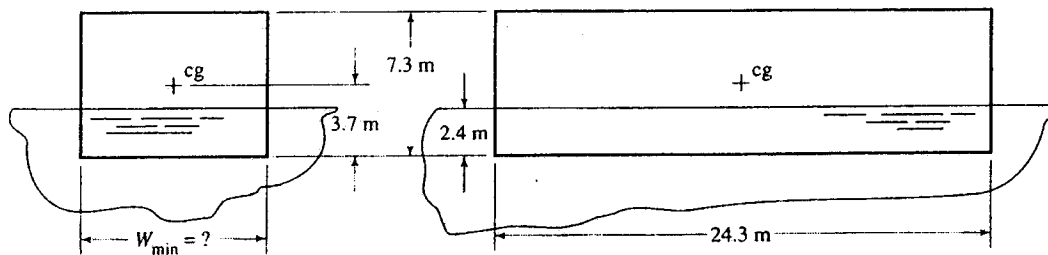

Figure 1 / Rajah 1
- [b] Figure 1 shows a river scow used to carry bulk materials. Assume that the scow's center of gravity is at its centroid and that is float with 2.4m submerged. Determine the minimum width that will ensure stability in seawater.